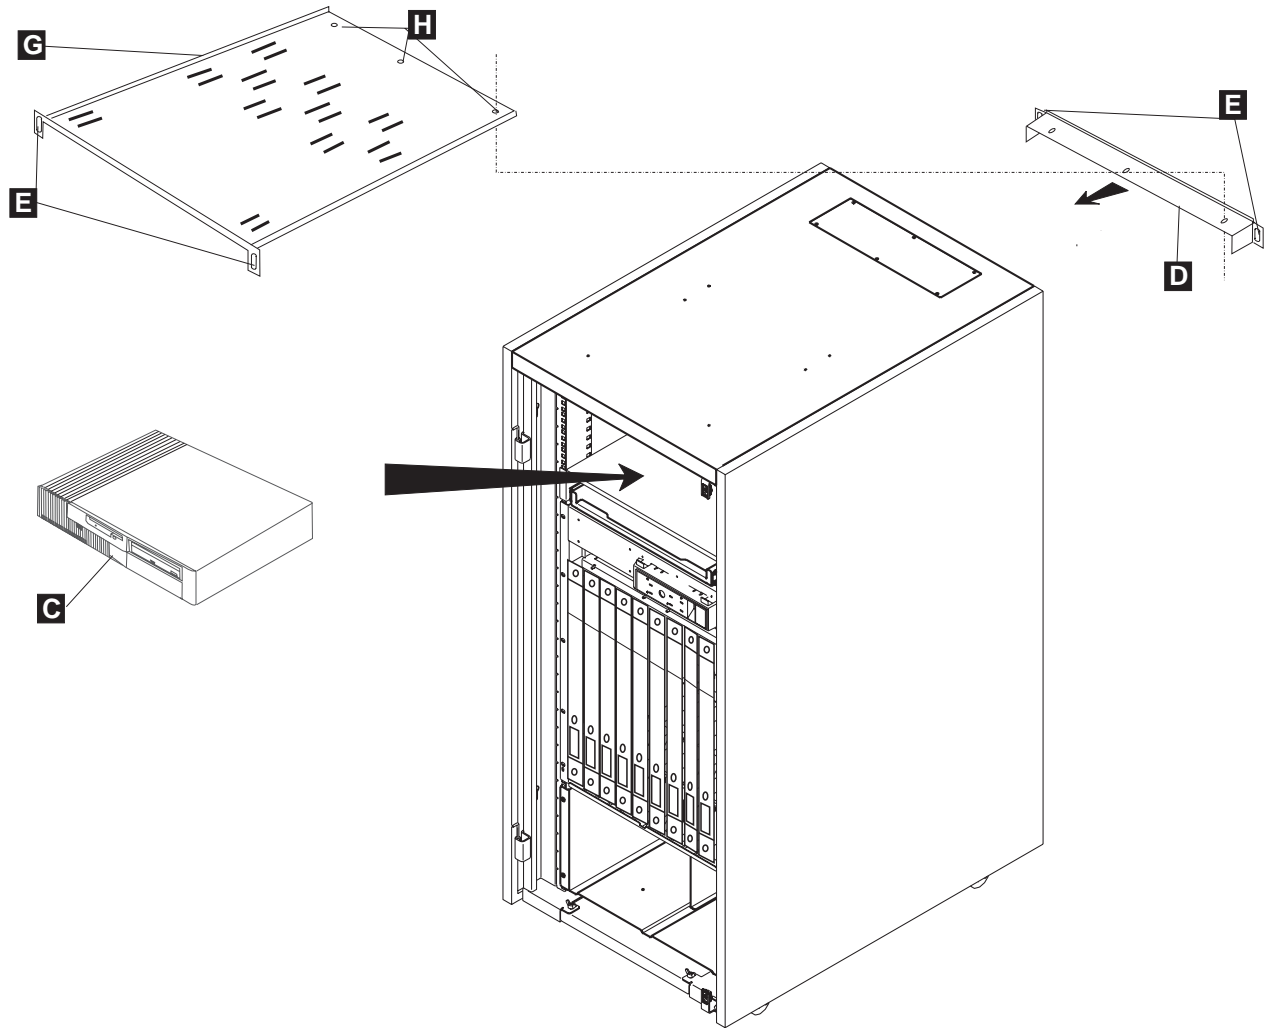

Figure 5-13. NAS Installation in 29U Rack
1. Install the NAS **C** on the drawer (see Figure 5-13).